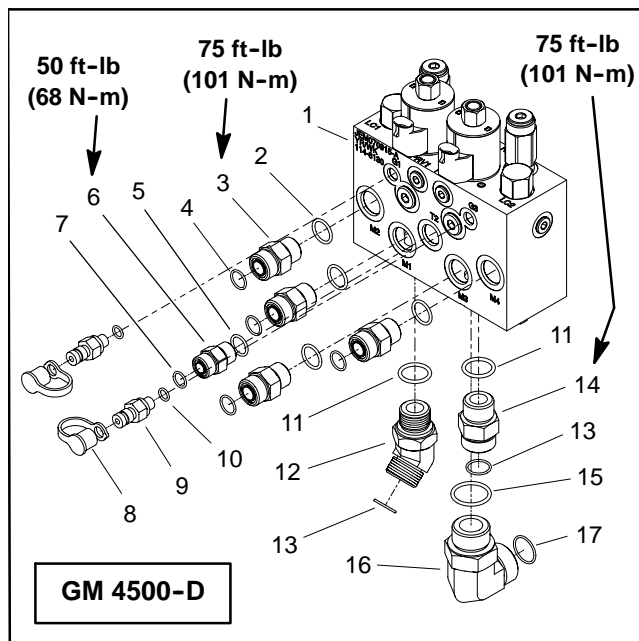

Figure 79
8. If hydraulic fittings are to be removed from control manifold, mark fitting orientation to allow correct assembly (Fig. 79 or 80). Remove fittings from manifold and discard O-rings.
1. If fittings were removed from control manifold, lubricate and place new O-rings onto fittings. Install fittings into manifold ports using marks made during the removal process to properly orientate fittings. Tighten fittings (see Hydraulic Fitting Installation in the General Information section of this chapter). Refer to Figure 79 or 80 for fitting installation torque.